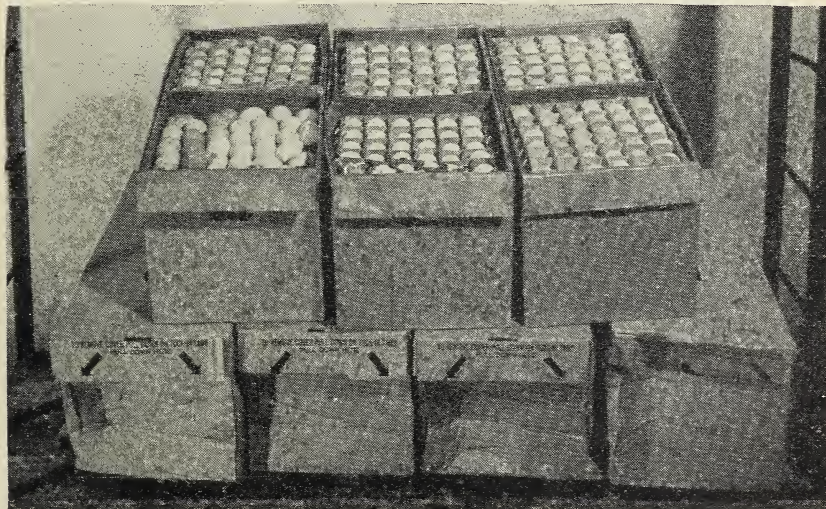

Figure 10.—Cases such as these should not be re-used. Breakage and leakage cause a rapid deterioration in cases, fillers, and flats.
2. Destroy all broken, moldy, or badly damaged egg cases (fig. 10).